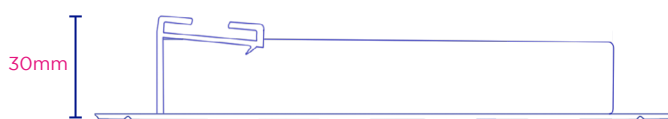

Fig.1 Flush jamb
- Suitable for all frame and sill positions (see Fig.1)